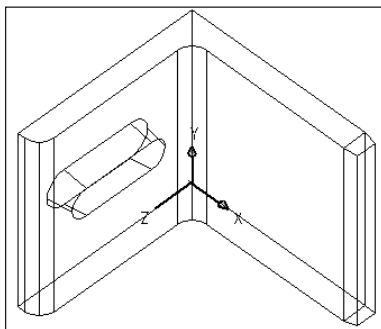

Figure 24-44: The editing mounting angle
9. At the `Specify the base point:` prompt, pick the midpoint at ❶.
10. At the `Specify another point along the axis of tapering:` prompt, pick the midpoint at ❷.
12. Right-click and choose `Delete`. At the next prompt, select the filleted face at ❸. Right-click and choose `Enter`. AutoCAD removes the fillet.
13. Right-click and choose `Extrude`. At the next prompt, select the face at ❹ by picking inside the face. Right-click and choose `Enter`.
17. Save your drawing. It should look like Figure 24-44.